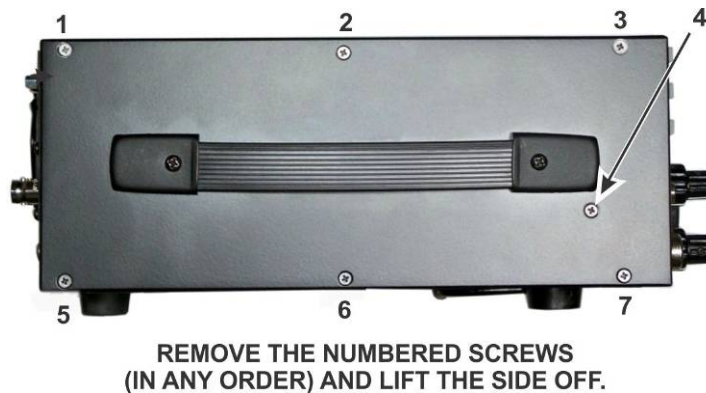

Figure 98. Removing the Left Side Panel.
- Remove the left side panel as shown in Figure 98.